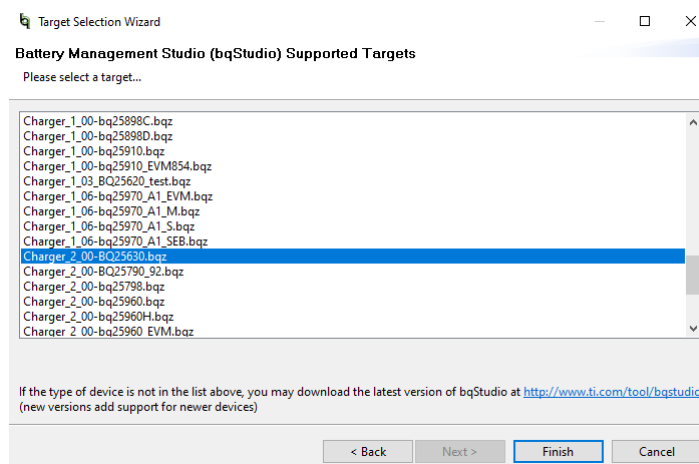

Figure 3-2. BQStudio Charger Selection Window (choose Charger_2_00-bq25630.bqz)
2. Select the appropriate configuration file based on the device BQ25630 from the window shown in Figure 3-2.